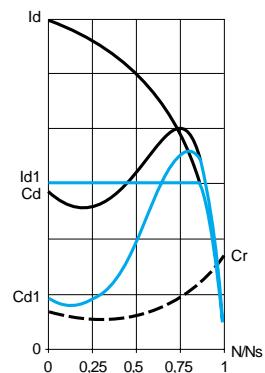

Figure 1
■ Figure 1 shows the behaviour of the torque in relation to the starting current. Limiting the starting current  $I_s$  to a preset value  $I_{s1}$  will reduce the starting torque  $T_s$  to a value which is almost equal to the ratio of the square of currents  $I_s$  and  $I_{s1}$ .